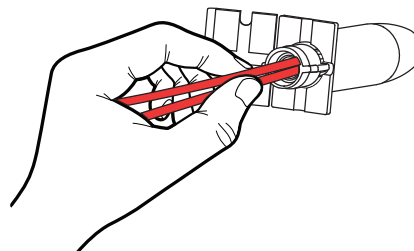

Figure 12c
- c. Insert the connector all the way into the tube until the connector rests on the bottom of the tube (see Fig. 12c).